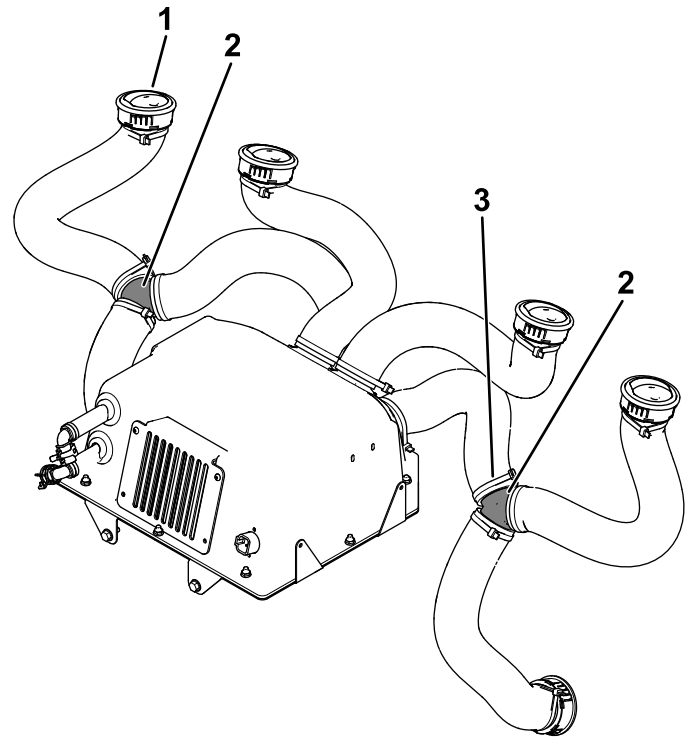

Figure 13
1. Connect 6 vent hoses to the adjustable vents using 6 large cable ties (Figure 13).
2. Route the hoses and install the 4 adjustable vents into the 4 top holes (Figure 13).
3. Route the hoses and install the 2 adjustable vents into the lower 2 holes (Figure 13).
4. Connect the 2 outer vent hoses to the 2 lower hoses using the 2 Y-adapters and 4 cable ties (Figure 13 and Figure 14).
Connect 2 additional vent hoses to the assembled outer vent hoses and secure them using 2 cable ties (Figure 13 and Figure 14).
5. Connect the 4 vent hoses to the heater box using 4 cable ties (Figure 13 and Figure 14).